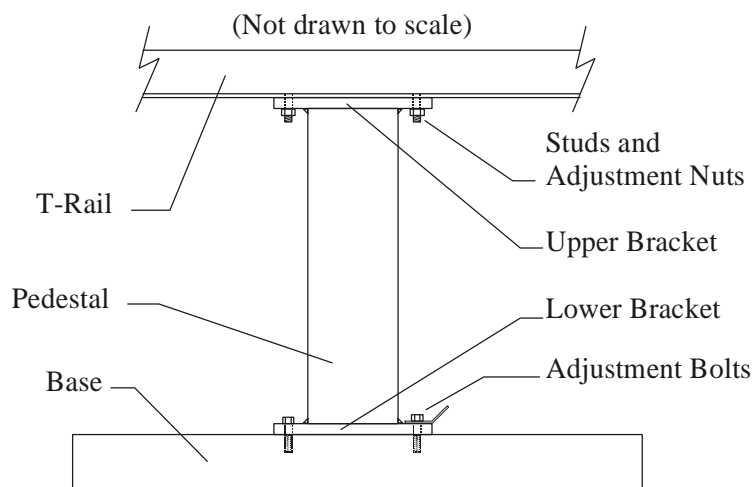

Figure 3-25. Pedestal (covers removed)
2. Loosen the four bolts fastening the top of the pedestal and the four bolts fastening the bottom of the pedestal (see Figure 3-25).